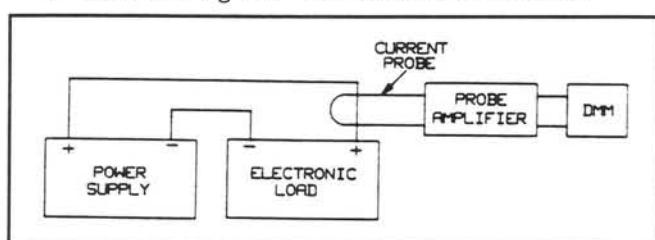

Figure 2-3. Test Setup C
- a. Connect the Electronic Load, power supply (HP 6032A or equivalent, DMM, and current probe as shown in Figure 2-3. Set power supply for 10 V and greater than 10 A.